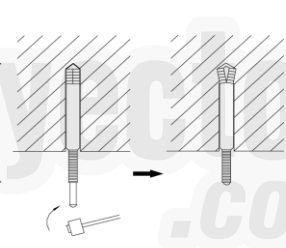

Fig. 4.5
- (3). Insert the anchor bolts into the drilled holes, and drive the pins completely into the anchor bolts with a hammer. (Fig. 4.5)